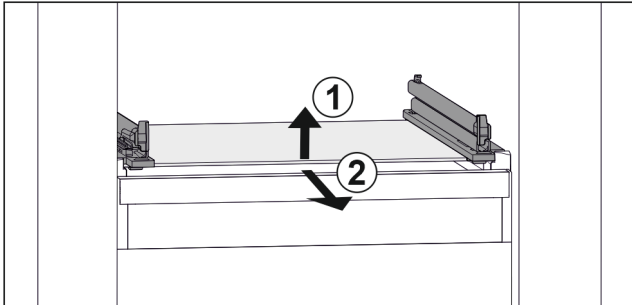

Fig. 74 Example illustration of glass shelf
- ▶ Lift glass shelf at the front. Fig. 74 (1)
- ▶ Take out glass shelf to the front. Fig. 74 (2)